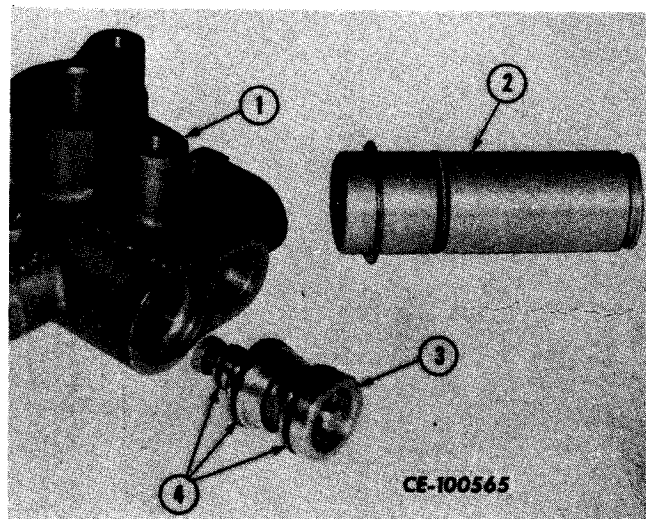

Figure 13-19
Push plunger (2, Fig. 13-19) down through section (1) to remove. Remove and discard seal ring from plunger. Tap section sharply on wooden block to pop valve (3) out of section. Discard valve "O" rings (4).
Install new "O" rings (4, Fig. 13-19) on valve (3) and carefully insert into bore of section (1). Install new seal ring on plunger (2) and slide plunger into section, from bottom up. Replace plunger snap ring if required.